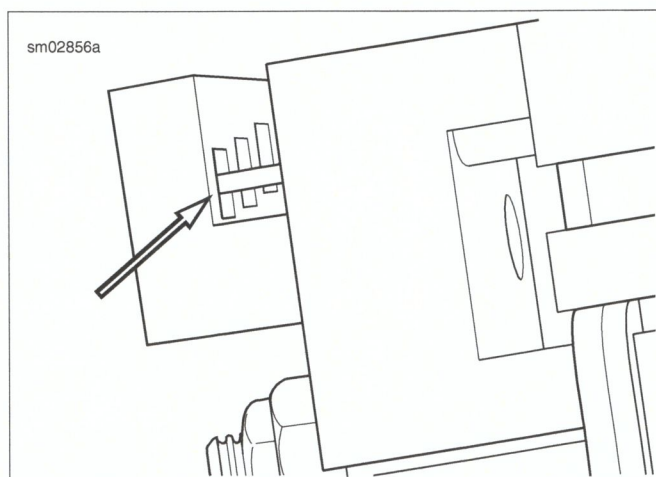

Figure A-20. Pin Terminal against Pin Locator Bar
- b. **Pin terminal:** See Figure A-20. The tip of a pin terminal passes through the socket locator bar and stops in the notch in the face of the pin locator bar.